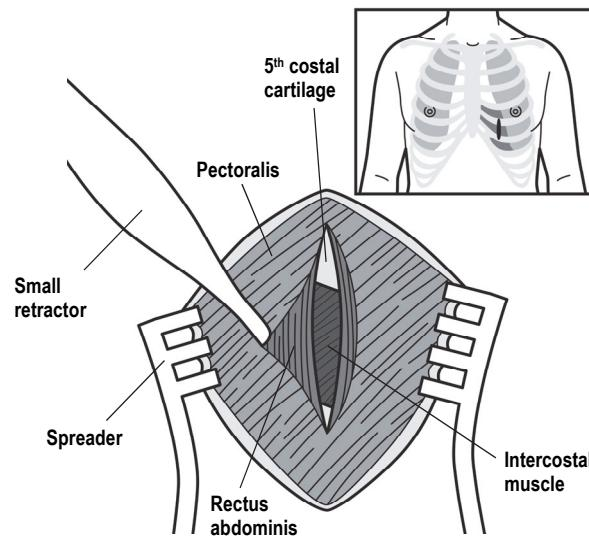

**Figure 19: Pre-implant acoustic window screening with left arm retracted**
1. Perform a shortened version of the screening process at the start of the implant procedure before sterile preparation of the patient. This is required to confirm the Transmitter implant location because oftentimes the marks from the screening are no longer present and even if they are present the patient is generally in a fully supine posture at the implant different from that used during screening, making the marks inaccurate. Additionally, this additional screening must be performed with the patients left arm retracted back to expose the battery implant site, as is required for the implant. This is important because movement of the arms can shift the location of skin markings. See Figure 19. At a minimum, the shortened screening should include: